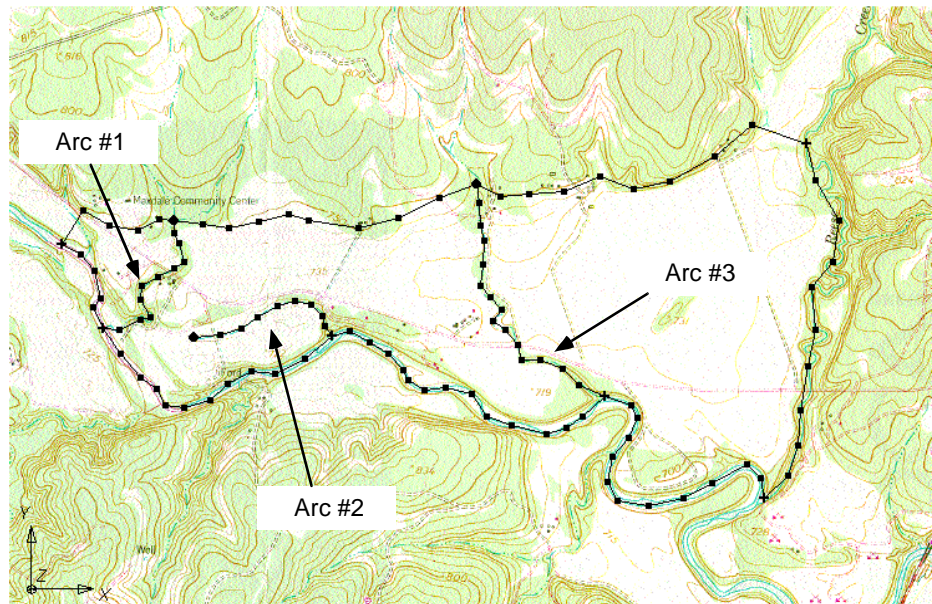

Figure 7.5 The Drain Arcs.
2. Create the arc labeled as arc #1 in Figure 7.5. Start by clicking on the bottom arc, create the arc by clicking points along the creek bed, and end the arc by double clicking on the top arc.
3. Create the arcs labeled arc #2 and arc #3 in Figure 7.5 the same way you made arc #1.